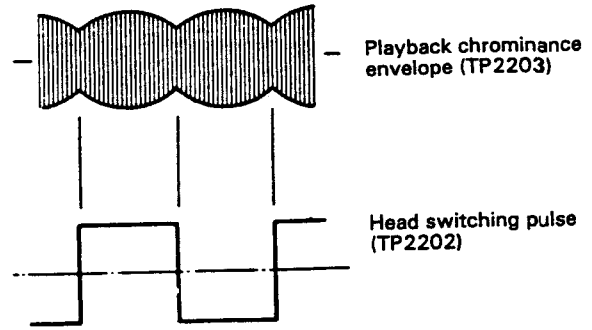

Figure 1-21.
- e. Observe the playback chrominance envelope waveform and check flatness of the playback chrominance envelope, turning the tracking control clockwise and counterclockwise. If the playback chrominance output changes almost flat when the tracking control is turned clockwise and counterclockwise, it is good. If the flatness is poor, adjust the guide roller so that the playback chrominance output becomes nearly flat. Adjust the X-position adjusting nut so that the playback chrominance envelope becomes almost maximum in the tracking center. In the case of rough adjustment, pay particular attention to the outlet side (See Fig. 1-21)